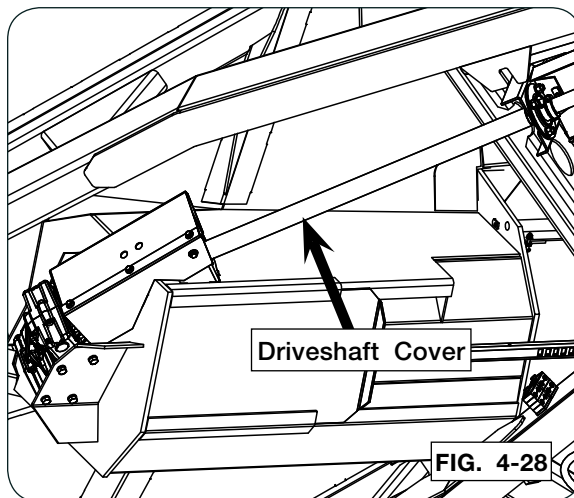

FIG. 4-28
16. Assemble new PVC driveshaft cover (291558) behind new bearing (9003920) closest to the U-Joint. (FIG. 4-28)